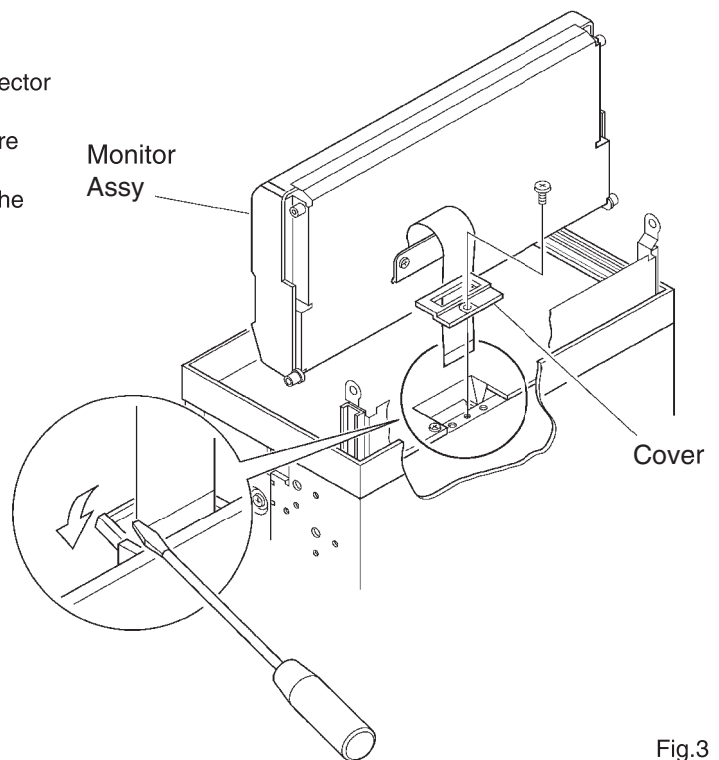

Fig.3
Do not pull the connecting flexible cable. (Fig.3)
- (3) Remove the flexible cable from the connector to remove the Monitor Assy. Push the lid of the connector up with the top of precision screwdriver (minus), and then remove the flexible cable. Take much care not to pull the connector forcedly or break it open because it is easy to be damaged. And also, use the precision screwdriver in the same way in the installation. (Fig.3)